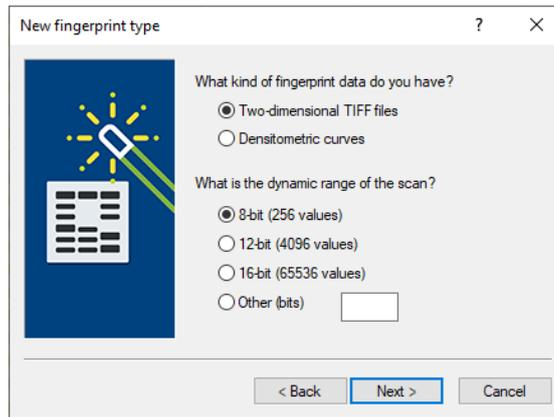

Figure 6: Fingerprint type settings.
10. In the page of the *New fingerprint type* wizard, make sure that **Two-dimensional TIFF files** is selected and select the dynamic range of the data: i.e. **8-bit** for the example files (see Figure 6). Press <Next>.